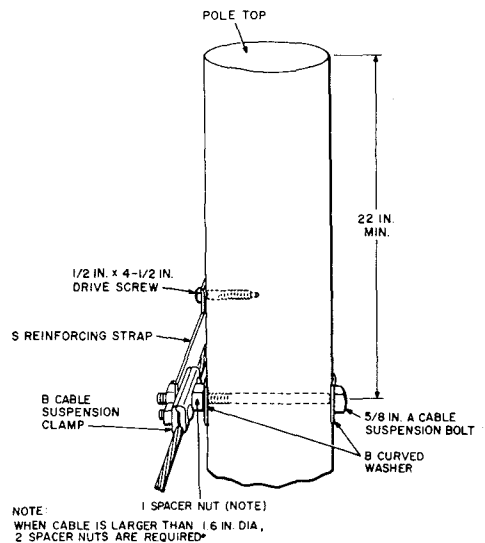

Fig. 14—Pole Attachment with Reinforcing Strap Attached with Drive Screw
9.03 Attach suspension strand as illustrated in Fig. 14 where a drive screw is used to attach the reinforcing strap (6.08).